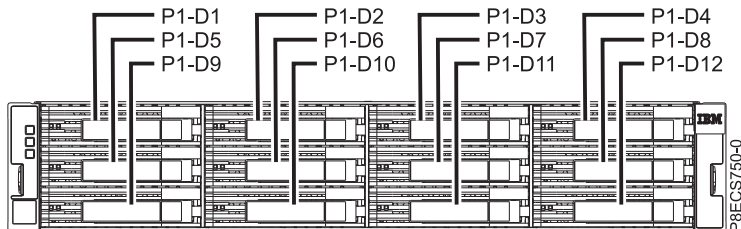
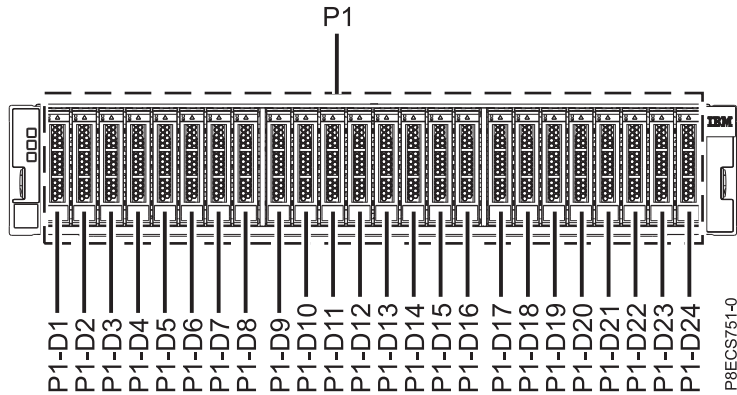
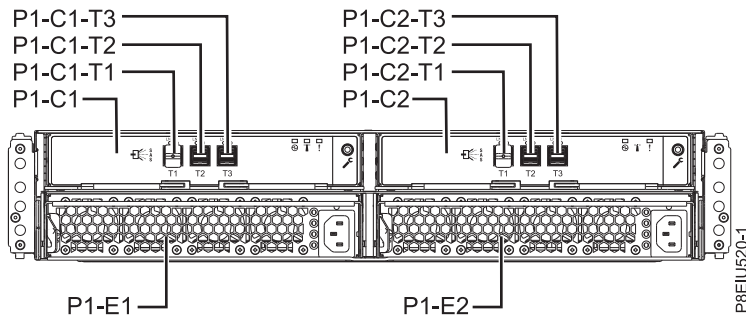
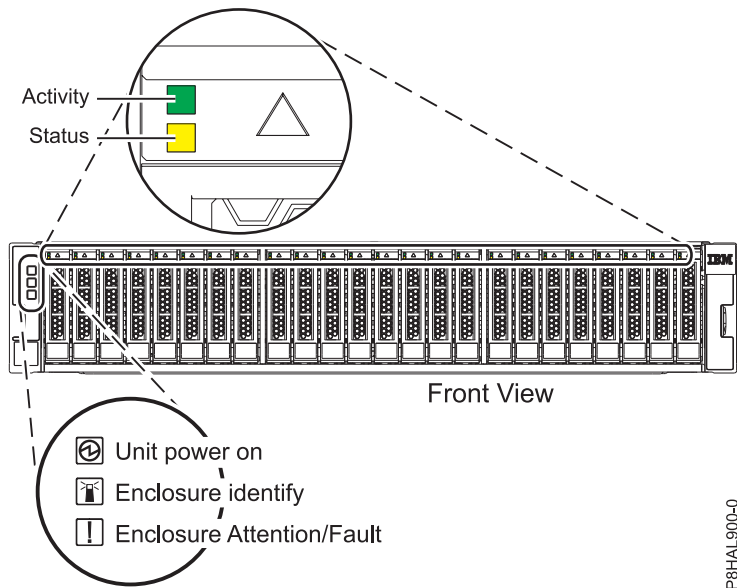

Figure 24. Front view of the ESSL storage enclosure showing the disk drive locations
Figure 25. Front view of the 5147-024 or ESLS storage enclosure showing the drive locations
Figure 26. Rear view of the storage enclosures
Figure 27. Front view of the storage enclosures showing the service indicators
2. Identify the part and the enclosure that you want to service. The disk drive and SSD slots are located in the front of the enclosure. Figure 24 shows the front of the ESSL storage enclosure, Figure 25 on page 21 shows the front of the ESLS storage enclosure, Figure 26 on page 21 shows the rear view of the storage enclosures, and Figure 27 on page 21 shows the locations of the service indicators for the storage enclosures.